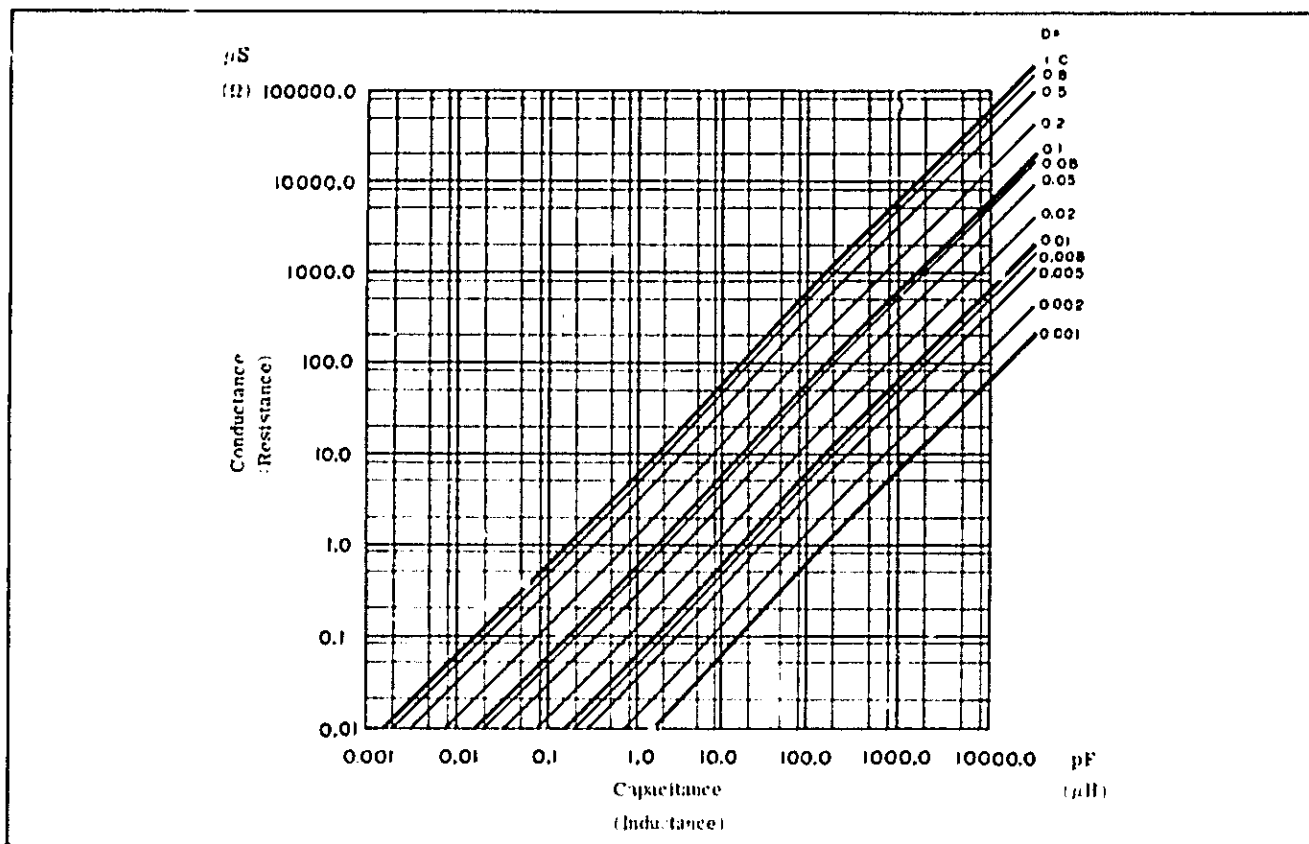

Figure 3-5. Dissipation Factor Conversion Chart.
The dissipation factor (D), when measured by C-G or L-R FUNCTION, can be calculated by equations (3-1) or (3-3). Figure 3-5 is a conversion diagram between G or R and D.